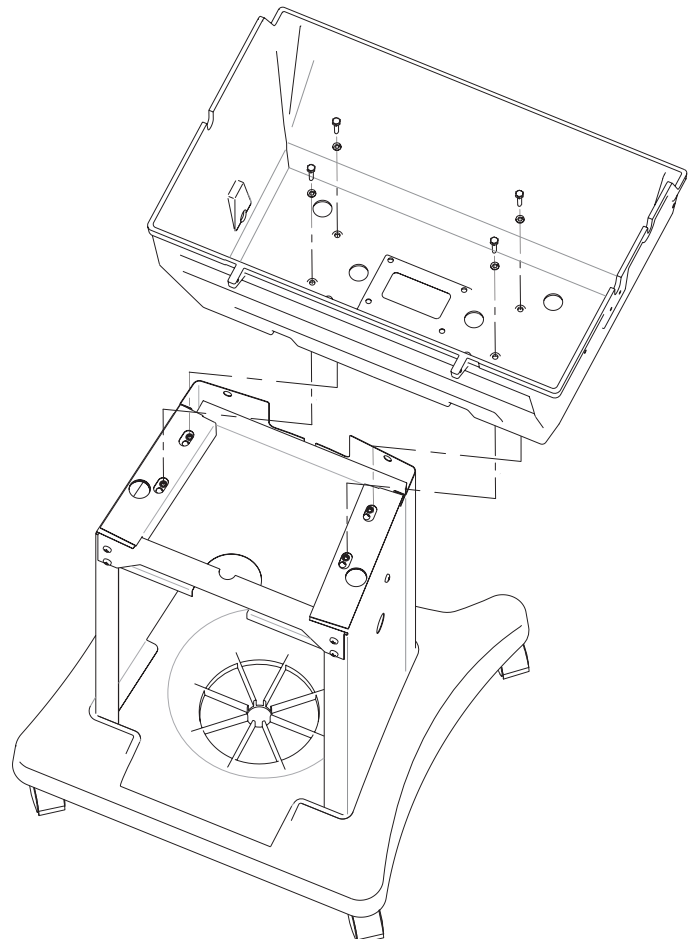

Figure 9
8. Secure the grill to the cart using four 1/4-20 x 3/4" screws and lock washers. See Figure 9. **Note: To ease assembly, you may wish to install the ignitor as shown in your Broilmaster® grill manual before attaching the grill to the cart.**